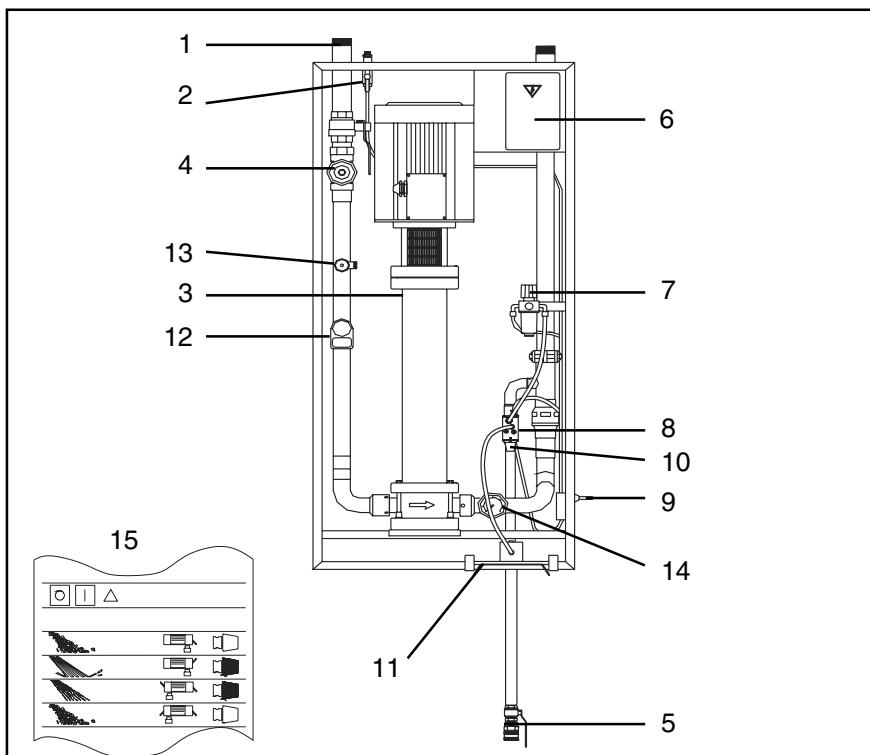

Fig. 4
**S4000, S4000 U, S4100, S4100 U,** (fig. 4, 'User Pack').